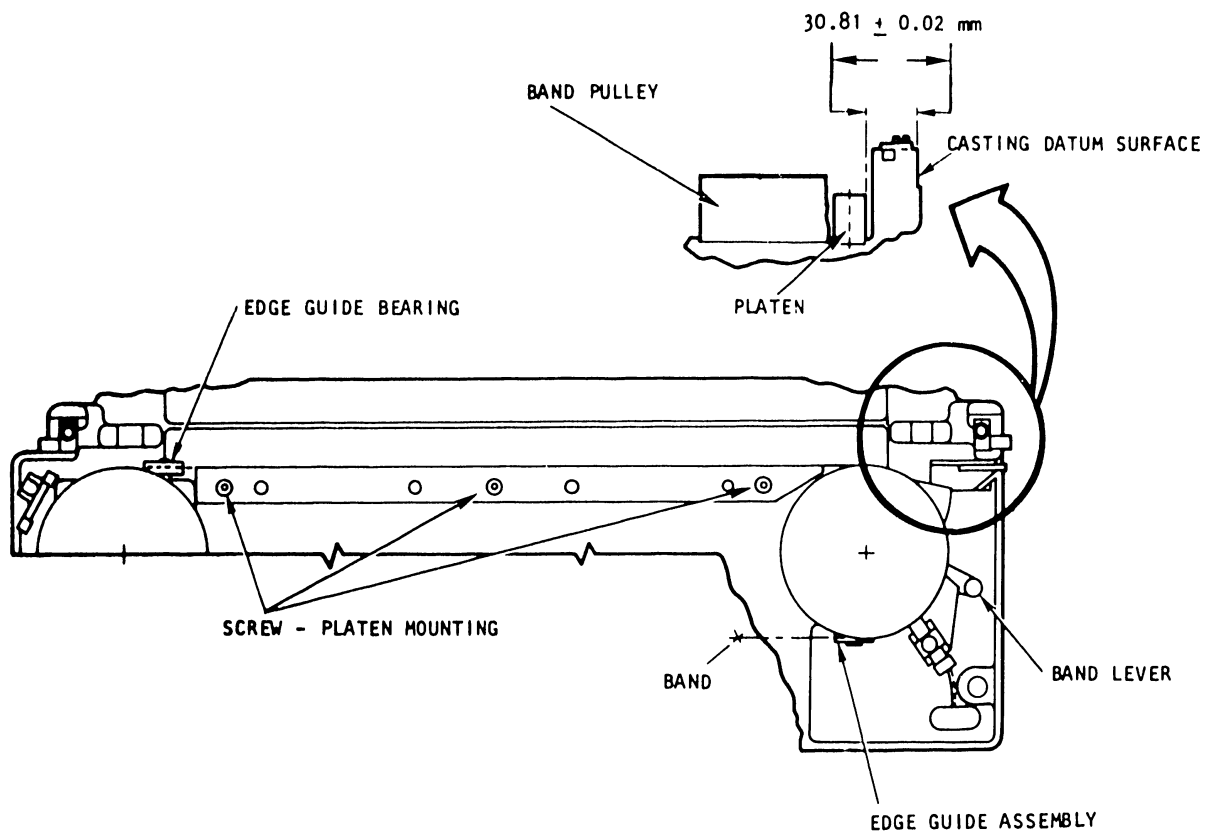

Figure 3-6. Platen Assembly Adjustment
3.3.2 Platen Adjustment (Figure 3-6)
- f. Set the platen clearance to 30.81 ± 0.02 mm (1.21 ± 0.0008 inches) from the datum casting surface as shown in **figure 3-6**.
- g. Using a 40 in/lb torque screwdriver and a 4mm hex key, tighten the three (3) screws loosened in **step e** to 4 N/m (35.4 in/lbs).